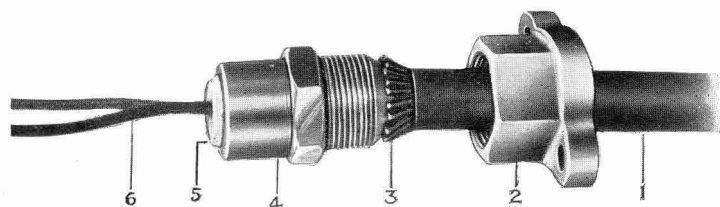
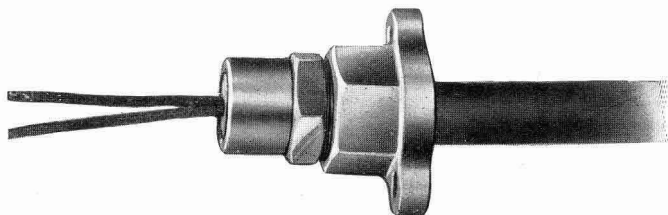

Fig. 1. Method of attaching cable to gland.
Fig. 2. Armoured cable and sealing gland ready for connecting to terminal chamber.
In the upper illustration, (1) the armoured cable is passed through (2) the clamp, and the armour wires (3) are cut back to within $\frac{3}{8}$ inch from the outer covering and splayed to fit the cone end of the sealing chamber (4). One inch of lead covering is left on the conductors and passes into the sealing chamber, which is then screwed tightly into the clamp, as in the lower illustration. The sealing chamber (4) is then filled with a suitable compound, so that when the wood plug (5) is inserted, it projects slightly, as in Fig. 1. When the gland is finally clamped to the terminal chamber (see page 8) the wood plug is forced flush with (4), as in Fig. 2 and completes the sealing.